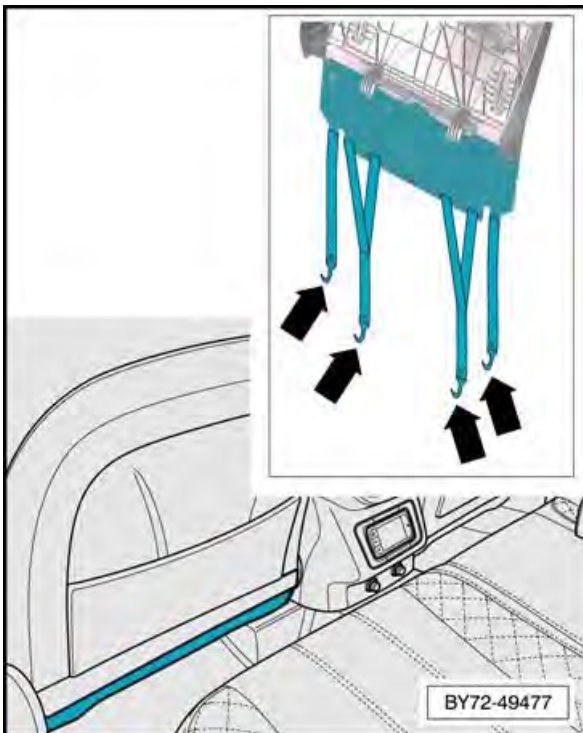

Figure 3
2. Unclip the four elasticated clips – arrows – from the underside of the seat – take note of the position of the clip anchor points to aid installation (see Figure 3)